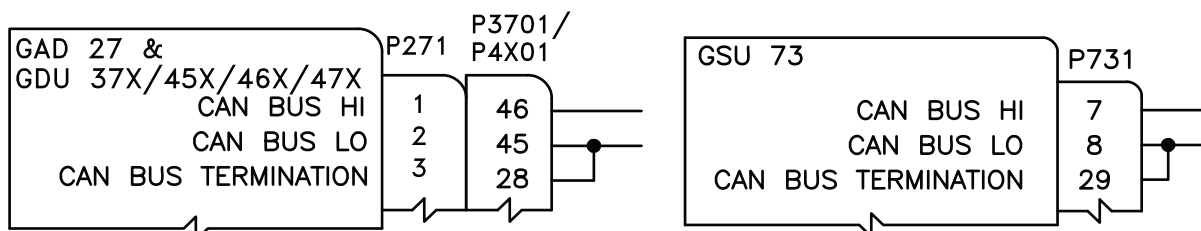

Figure 2-11 CAN Bus Termination for GAD 27, GDU 37X/4XX, GHA 15, and GSU 73
- The GDU 37X, GDU 4XX, GAD 27, GHA 15, and GSU 73 contain a 120 Ω resistor inside the unit that provides termination when the CAN LO pin is connected externally to the CAN TERM pin (Figure 2-11).
- The CAN bus backbone must be a single linear path with exactly two distinct ends. CAN bus connections should be “daisy chained” from device to device. Avoid “star” and “Y” topologies, and do not use a hub device (see Figure 2-11).